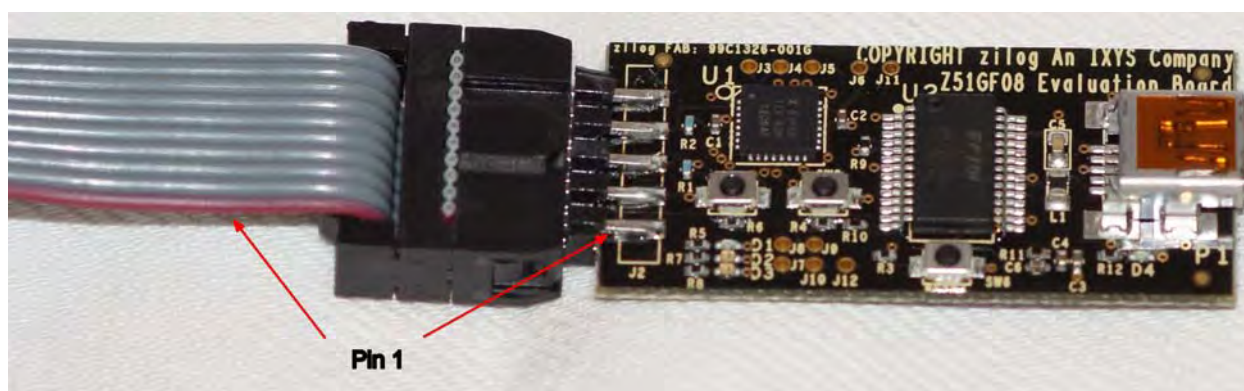

Figure 12. Connecting the 10-Circuit Cable to the Board
3. Connect the other end of the 10-circuit cable connector to the Z51F0811 Board's J1 and J2 connectors. Pin 1 of the cable connector is indicated by a red stripe, as shown in Figure 12.